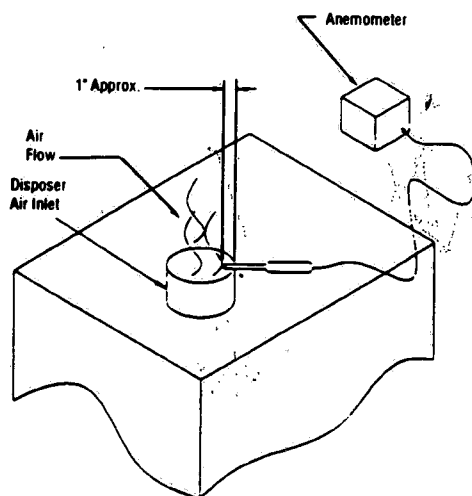

Figure 6-6. Blower Adjustment
- c. Using air flow meter, measure air flow at Disposer inlet. Take four measurements approximately 1 inch in from edge (see Figure 6-6). See Table 6-1 for air flow rate to cfm conversion.